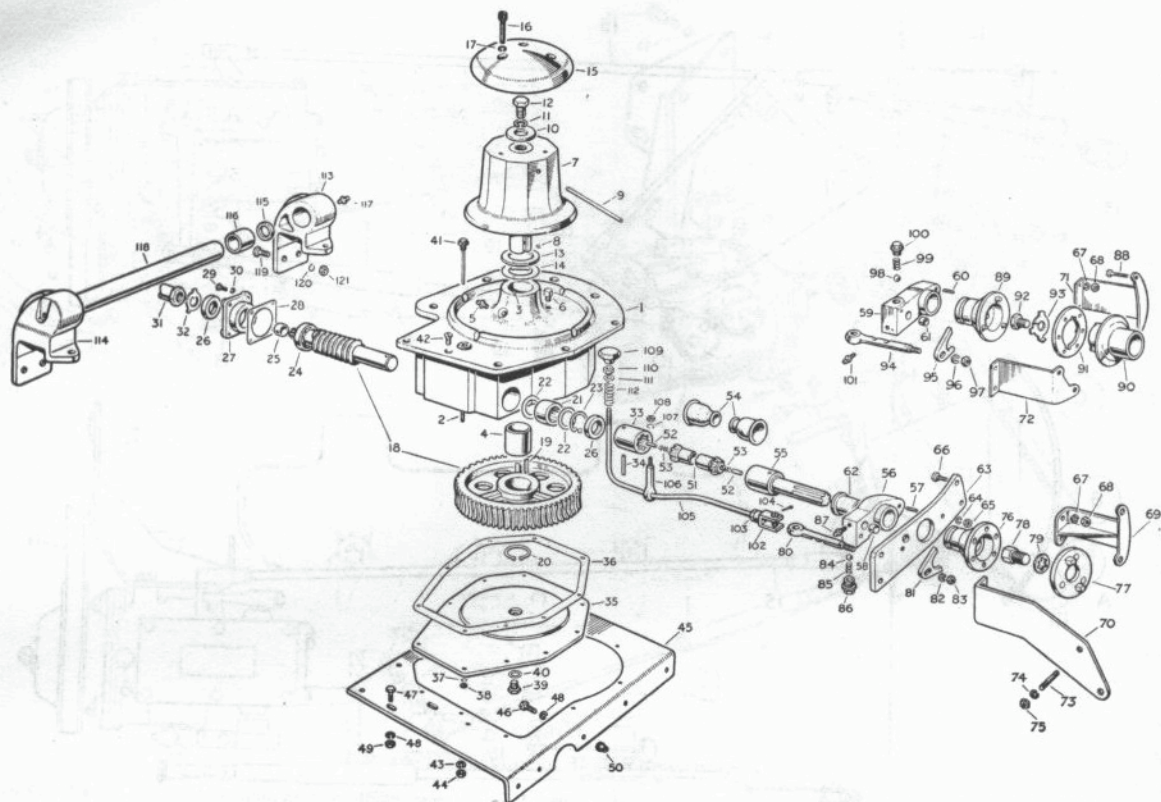

FIG 14:13 Layout of front winch
In this Section refer to FIGS 14:11 and 14:12.
- 2 Refer to FIG 14:11. Fit bracket 21 on top of the existing generator support bracket, turn it to the rear leaving the bolt slack. Fit the governor to bracket 18.
- Key to Fig 14:13**